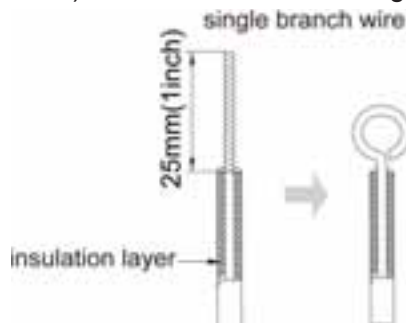

Fig 5.1.1
- (1) Single wire connection (as shown in Fig. 5.1.1)